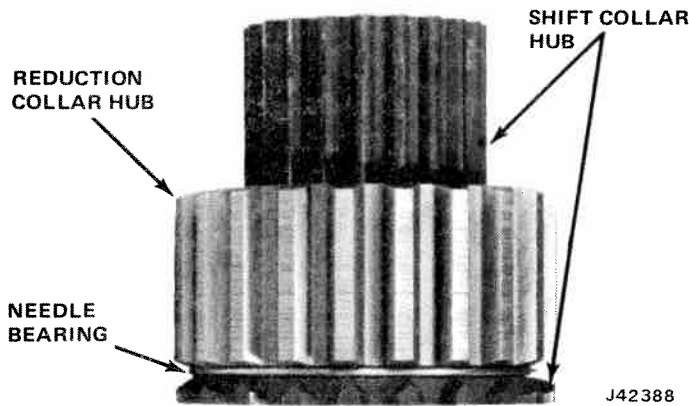

Fig. 8-37 Needle Bearing and Reduction Collar Hub Assembled with Shift Collar Hub
(26) Place needle bearing and reduction collar hub on shift collar hub (fig. 8-37).